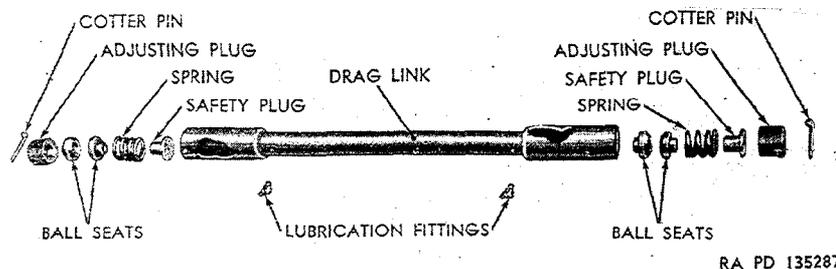

Figure 268. Drag link assembly—exploded view.
- (2) Remove cotter pin (fig. 268) from drag link.
- (3) Unscrew adjusting plug (fig. 268) as far as possible without removing it from end of drag link.
- (1) Place rear end of upper drag link (fig. 261) on pitman-arm ball stud, and screw adjusting plug (fig. 268) into end of drag link but do not tighten.
Note. Distance between ball stud opening and drag link end is greater at one end of drag link assembly than at the other (fig. 268). Install upper drag link so that end with greater distance between ball stud opening and drag link end is at pitman-arm.
- (4) Turn adjusting plug into rear end of drag link until ball seats (fig. 268) clamp pitman-arm ball stud firmly; then back out adjusting plug until slot in plug is alined with first cotter pin hole. Install new cotter pin.
- (5) Repeat in (4) above at front end of upper drag link.